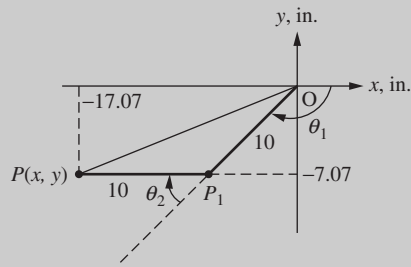

Figure 3.25 Two-link planar robot in the elbow-down position with $P(x, y) = (-17.07 \text{ in.}, -7.07 \text{ in.})$.
- Suppose now that the tip of same robot is located in the third quadrant and oriented in the elbow-down position (clockwise direction), as shown in Fig. 3.25. If the tip of the robot is located at point $P(x, y) = (-17.07 \text{ in.}, -7.07 \text{ in.})$, determine the values of θ_1 and θ_2 .